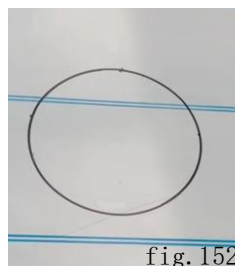

fig. 152
- draw the circle on the aluminum composite panel. Determine the circle according to the component diameter. (fig. 152)